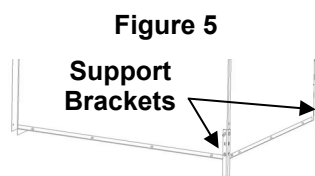

Figure 5
6. Install support brackets, as shown in Figure 5.